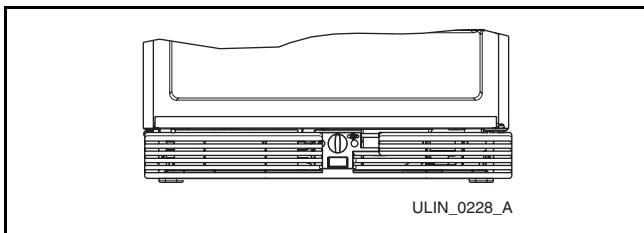

Figure 6
2. Remove the control knob (**Figure 6**) by pulling it straight out, away from the grille.